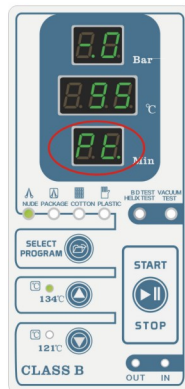

Fig. 8.4-9
(13)***Balance atmospheric and print sterilization record stage:***When the drying work into the last minute, the vacuum pump be stopped.the control system will open the air solenoid valve(Ev3) for balance between the pressure in chamber and atmospheric,so that after the end of sterilization,you can easily open the door.when the “operation display window” show “Pt” ,it means the control system has transport sterilization data to external mini-printer and Print.(Fig.8.4-9)